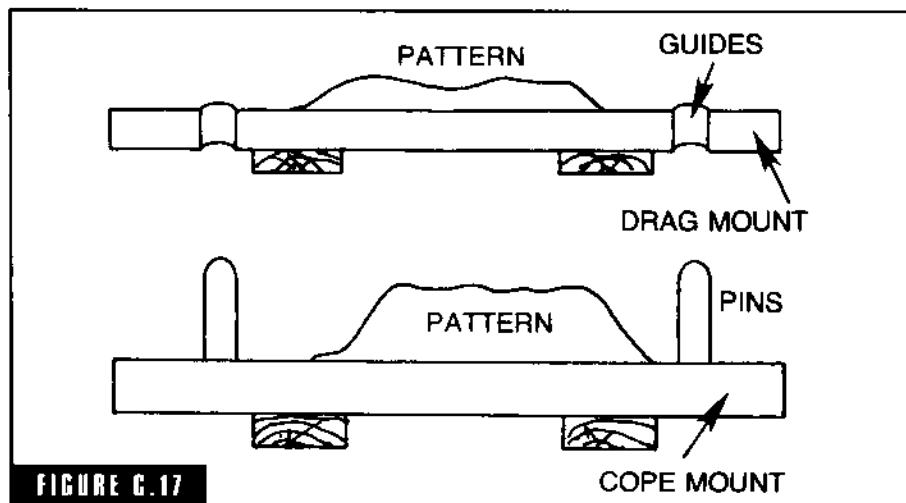

FIGURE C.17
**cope and drag mounts** Two separate pattern mounts, one fitted with female guides for the drag and one fitted with pins for the cope. These must match up with the flask used (Fig. C-17).